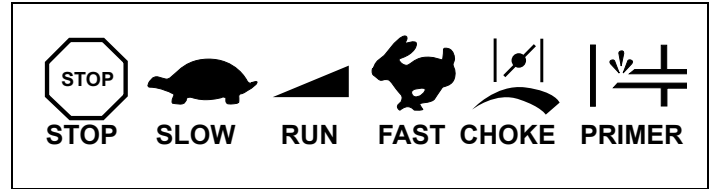

Figure 24. Typical Engine Symbols
3. Move Equipment Control (see equipment manufacturer's instructions) or Engine Throttle Control to "FAST" position or "HIGH" position and set Choke Control to "FULL" position. See Figures 24, 25 and 26.
6. Move Engine Speed Control to desired speed in “RUN” range. See Figures 24 and 25.